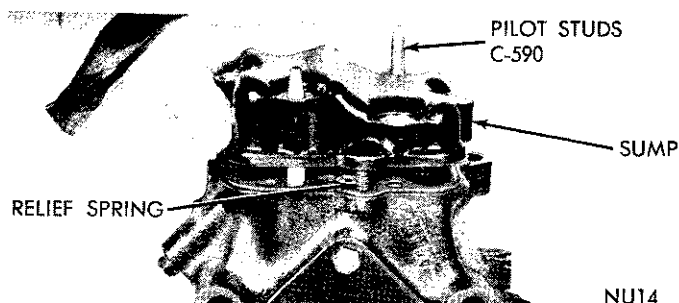

Fig. 11—Installing the Compressor Sump
(1) Remove bearing cap and install piston in bore. Use piston ring compressor to prevent ring damage.
(2) Install bearing caps, and tighten screws 50 to 60 inch-pounds. Be sure each cap is installed in its original position.
(3) Install valve plates and cylinder heads.
(4) Turn compressor upside down. Install pilot studs, gasket, oil pressure relief ball and spring.
(5) Install the sump over pilot studs (Fig. 11), making sure the oil pressure relief spring depresses uniformly as the sump is lowered on the case.
(6) Tighten sump bolts finger tight to prevent spring misalignment, then tighten 14 to 20 foot-pounds.
(7) Refill with new refrigerant oil after the compressor is installed on vehicle. Do not re-use the oil that was previously drained.